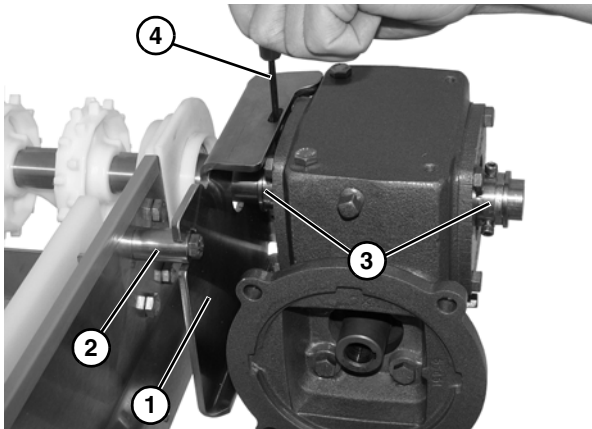

Figure 6
4. Slide mounting bracket (**Figure 6, item 1**) onto spacer (**Figure 6, item 2**) on conveyor, and tighten set screws on both bearings (**Figure 6, item 3**) with a hex key wrench (**Figure 6, item 4**).